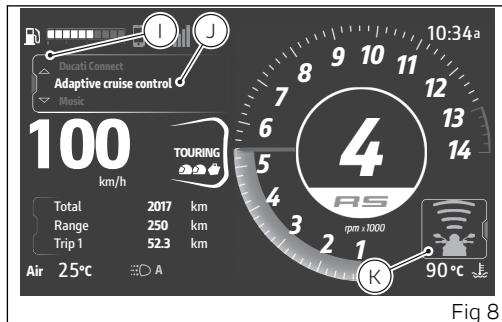

Fig 8
Each time the buttons + (A, Fig 4) and - (B, Fig 4) are pressed, the corresponding icon (K, Fig 8) is displayed for 3 seconds.
- Select the Interactive Menu (I, Fig 8), by pressing and holding the joystick in ▲ position for a long time.
- Use joystick ▲ ▼ to select “Adaptive Cruise Control” (J, Fig 8) and press ENTER.